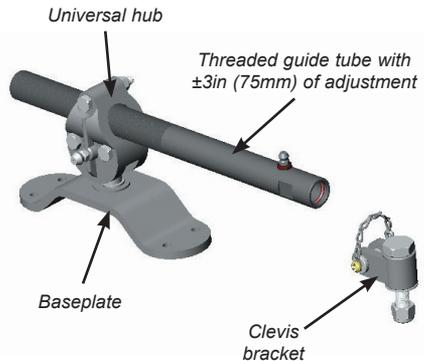

Fig B39 - Universal installation kit
- Determine the mounting position of the installation kit (Fig B39)